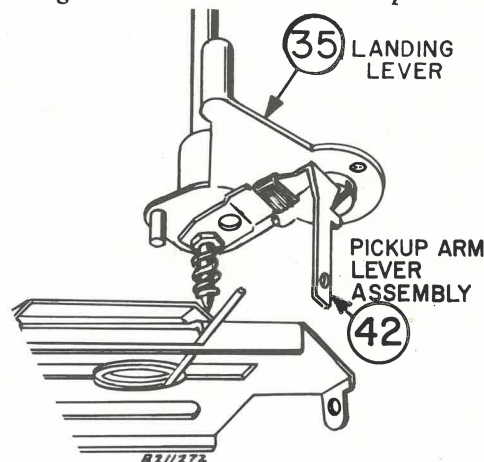

Figure 16—Pickup Arms Descend to Rest Positions
The outward movement of cycling slide (9) causes the pickup arm lift rod (36) to arrive at the flat portion of the lance on the cycling slide, completing the vertical rise of the pickup arm. Continued outward movement of the cycling slide causes the vertical tab on the shut-off latch actuator (part of cycling slide—fig. 16) to contact the tab on the shut-off lever (22) causing it to rotate thus unlocking the landing lever.